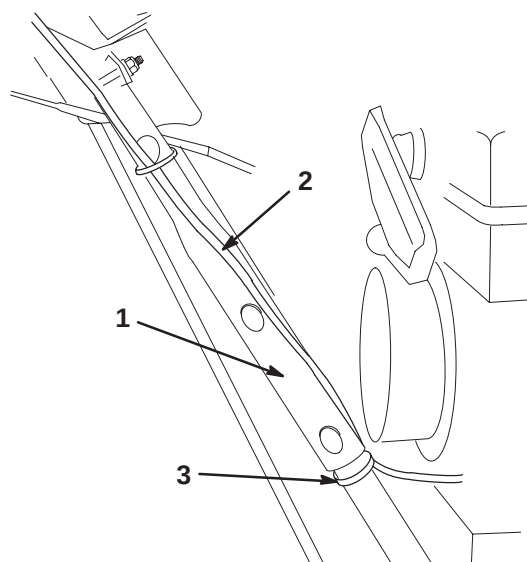

Figure 2
4. Secure the wire harness to the lower right side of the handle assembly with a plastic cable tie (provided in the kit) about an inch (2.5 cm) below the bottom end of the upper handle (Fig. 2).